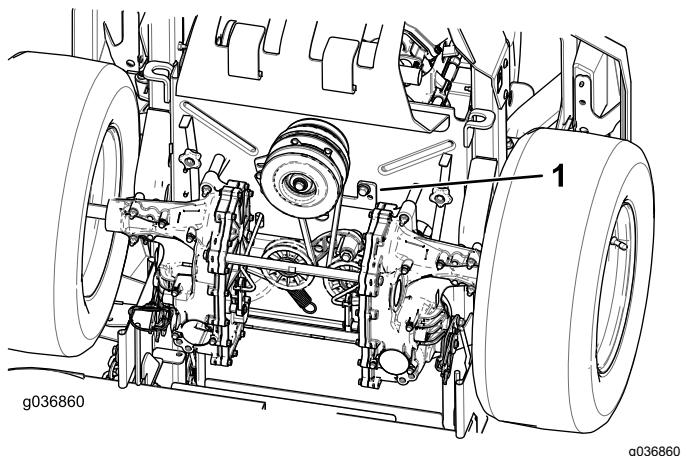

Figure 66
9. Install the clutch stop (Figure 66).
5. Remove the clutch stop (Figure 66).